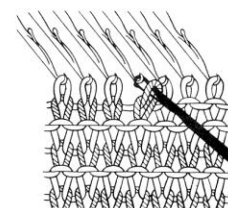

Fig.114
- d) Knit up with the tool and replace it onto the empty needle. (Fig.114)